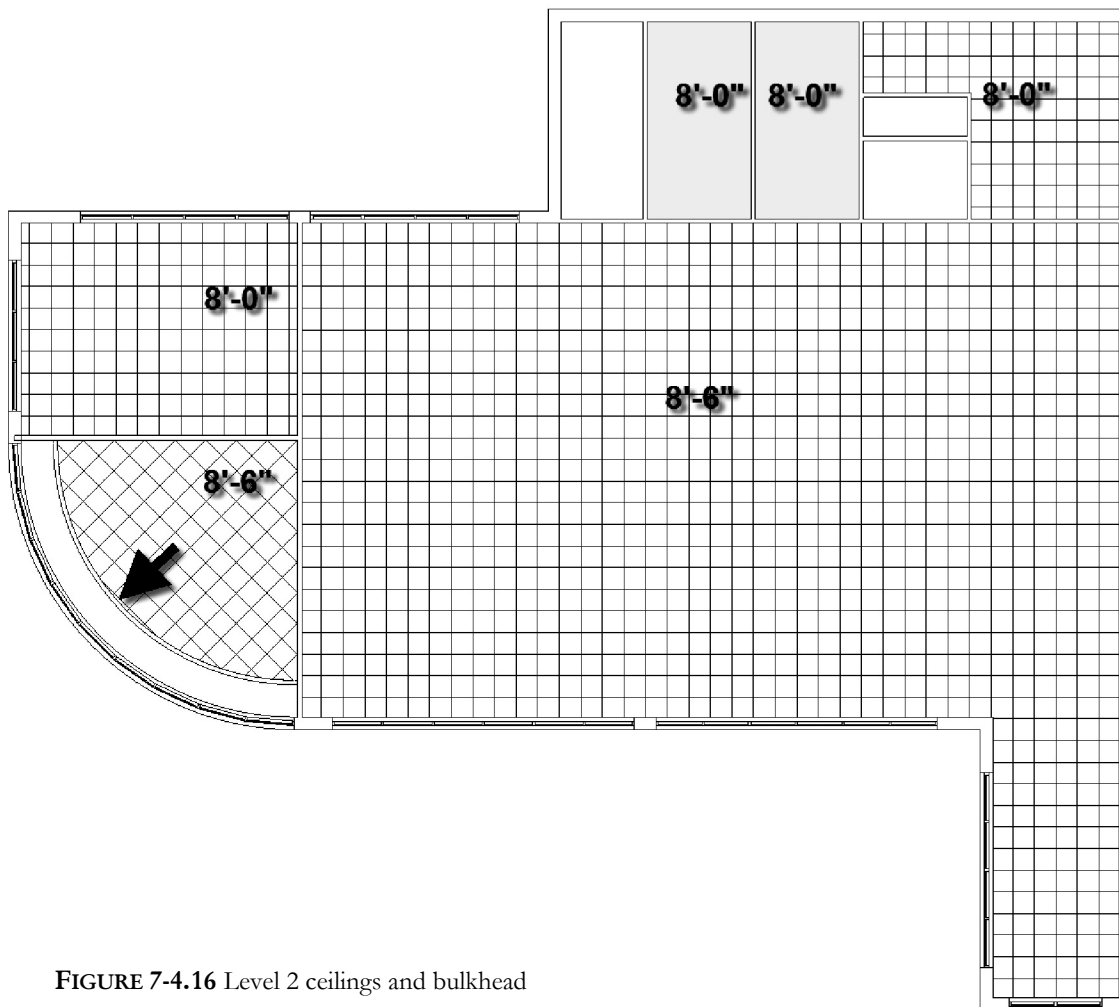

FIGURE 7-4.16 Level 2 ceilings and bulkhead
39. Using the techniques previously covered, add the Level 2 ceilings per the information provided in Figure 7-4.16.